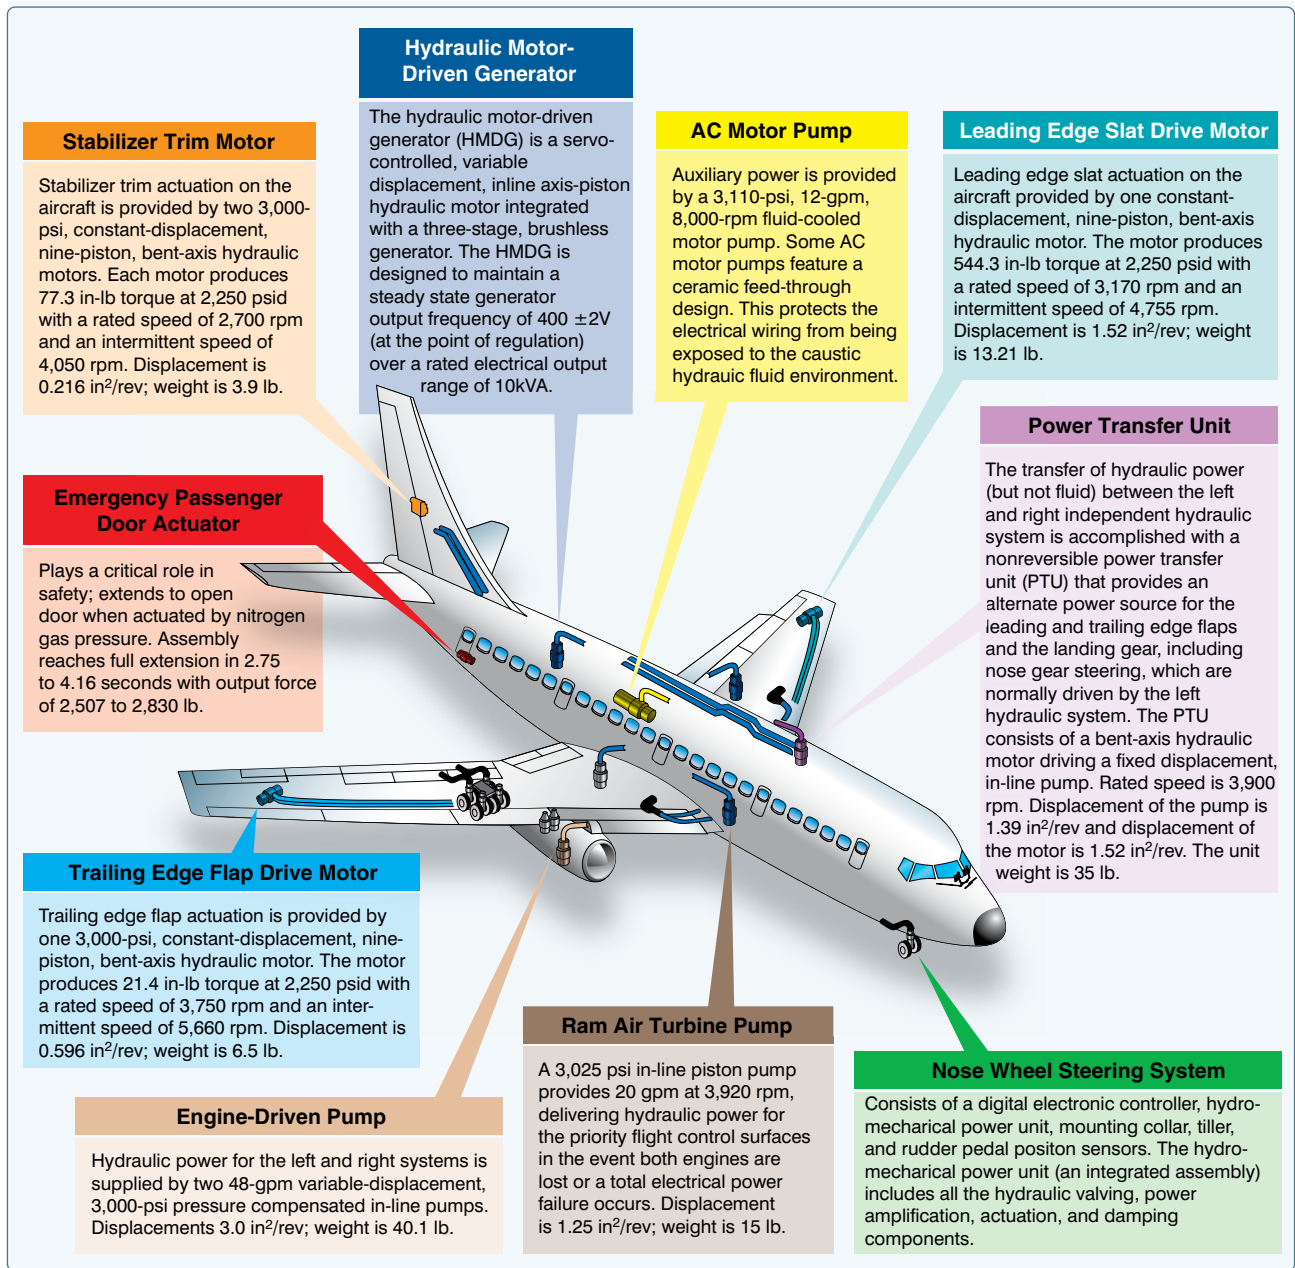

Figure 12-62. Large aircraft hydraulic systems.
*Figure 12-62* provides an overview of hydraulic components in large aircraft.